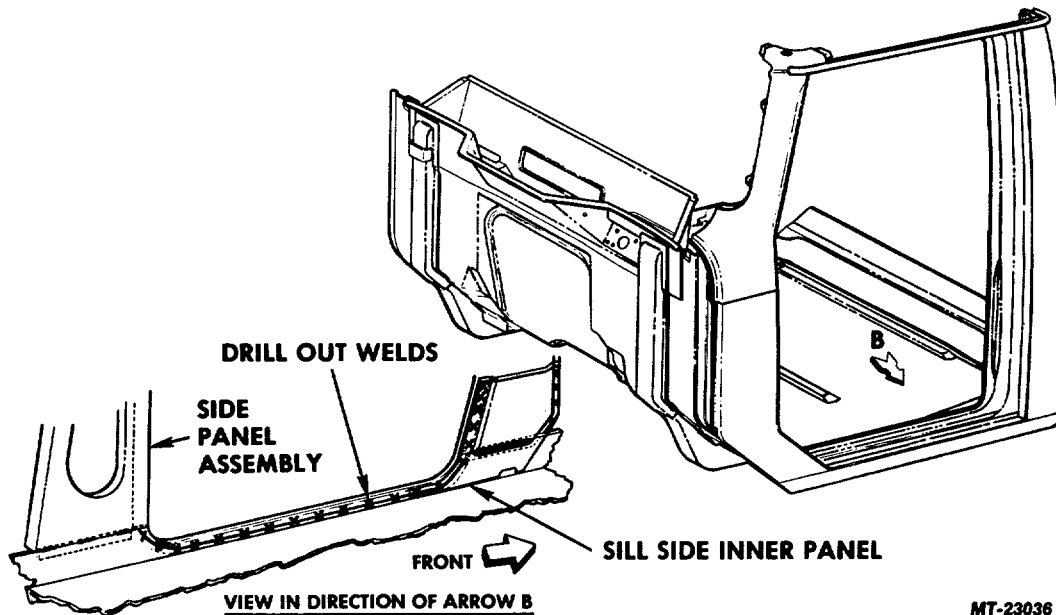

Fig. 47. Side Panel To Sill Side Inner Panel Spot Welds
11. Drill out fifteen spot welds along bottom of door opening and separate side panel from sill side inner panel (Fig. 47). Note that on 80" wide cabs there are additional spot welds to be removed at lower front corner of door opening.